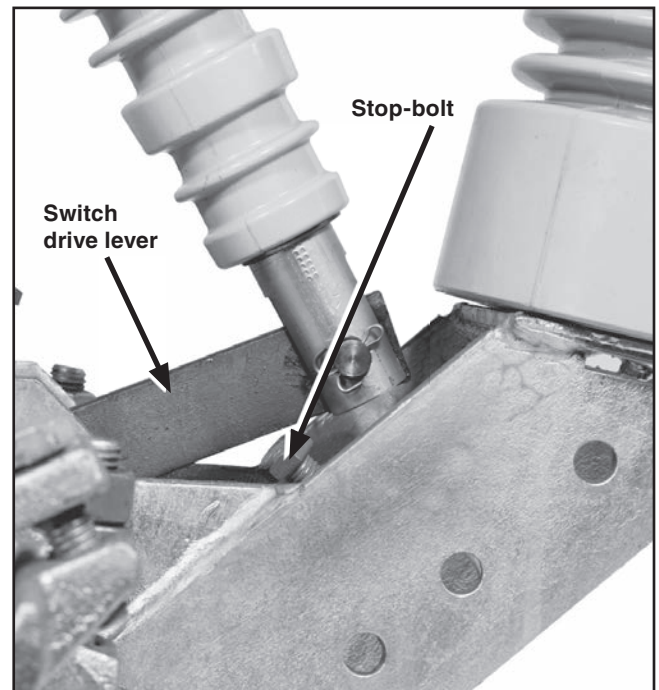

Figure 24. Verifying the switch drive lever assembly is within $\frac{1}{16}$ -inch (2 mm) of the closed stop-bolt.
- (b) Each switch drive lever is within $\frac{1}{16}$ -inch (2 mm) of the closed stop-bolt. See Figure 24.